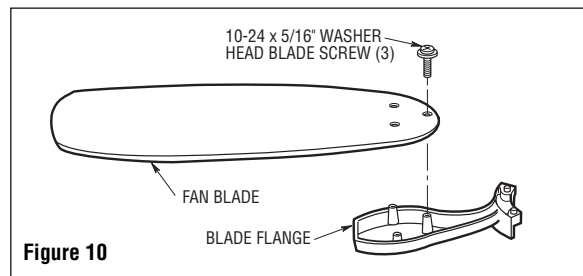

Figure 10
10. Mount the blade flanges to the fan blades using three 10-24 x 5/16" washer head blade screws per blade (supplied) (Figure 10). Repeat for the four remaining blades.